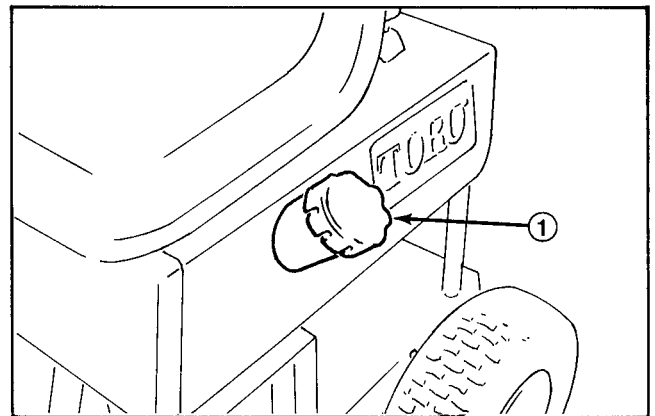

Figure 12
1. Clean area around fuel tank cap so foreign matter cannot enter filler hole when cap is removed. Next, remove cap from fuel tank (Fig. 12).